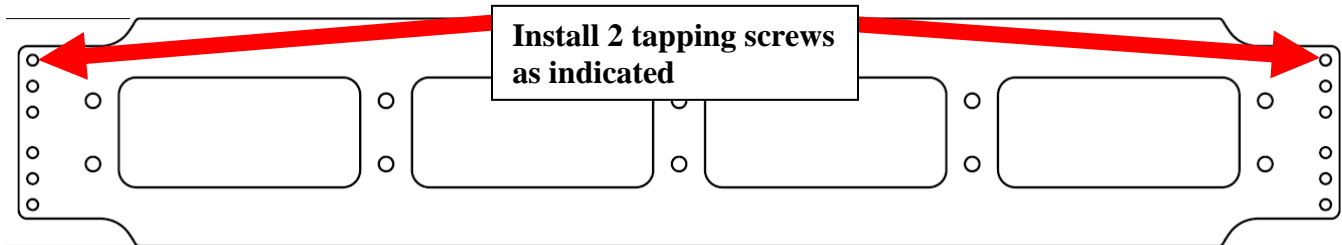

Figure 11: Hose bracket, install tapping screws
- a) Install top ¼-20 tapping screws P/N: (34s04020) x2 into recently drilled holes using LOCTITE P/N: (081034). Be sure to add spacers kept from discarded tapping screws and installed in the same order they were originally. See figures 11 and 14.